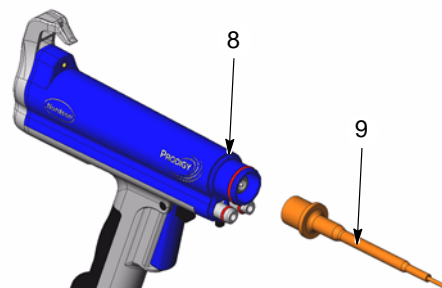

Figure 4 Removing the Resistor Holder
7. See Figure 4. Unscrew the resistor holder (9) from the multiplier (8).
- See Figure 4. Screw the resistor holder onto the multiplier (8).